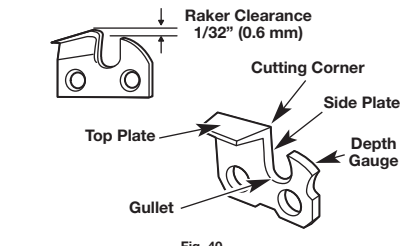

Fig. 40
- The depth gauge (or raker clearance) setting determines the height at which the cutter enters the wood and the size of the wood chip that is removed (Fig. 40). Too much clearance increases the potential for kickback. Too little clearance decreases the size of the wood chip, thus decreasing the chain's cutting ability.